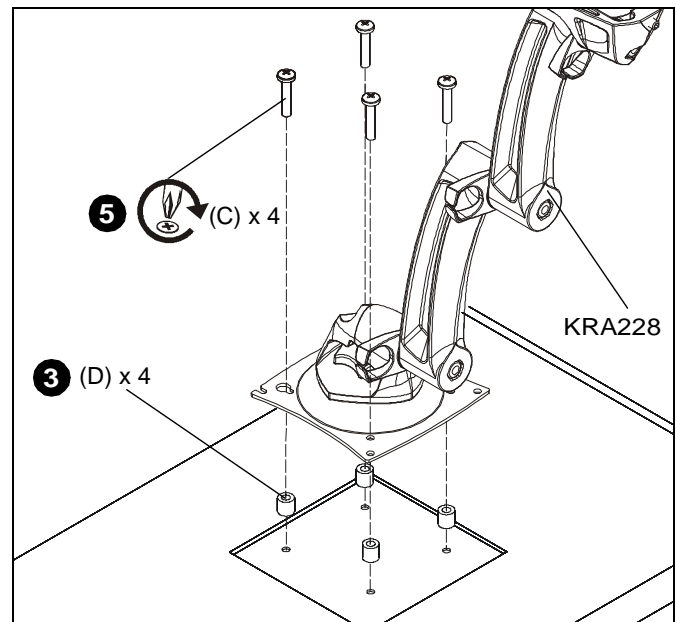

Figure 5
3. Place the four spacers (D) over each of the mount holes on the back of the display. (See Figure 5)
4. Pick up and orient the KRA228 so that the mounting holes are aligned with the holes in the spacers; rotate the bracket as required. (See Figure 5)
5. Using Phillips screwdriver, install four M4x25mm screws (C) through the mounting holes, through the spacers and into the display. (See Figure 5)